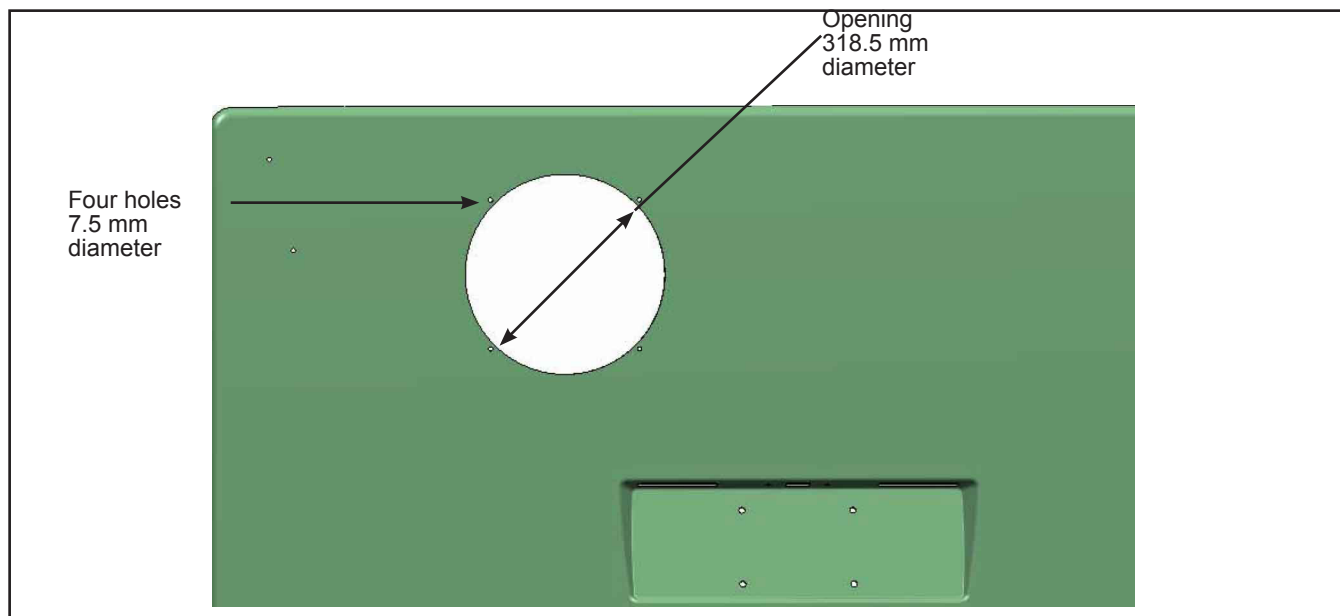

Figure 2 - Mark and Cut Openings
- 1.4. Cut the opening. See Figure 2. The use of a jig saw is recommended.